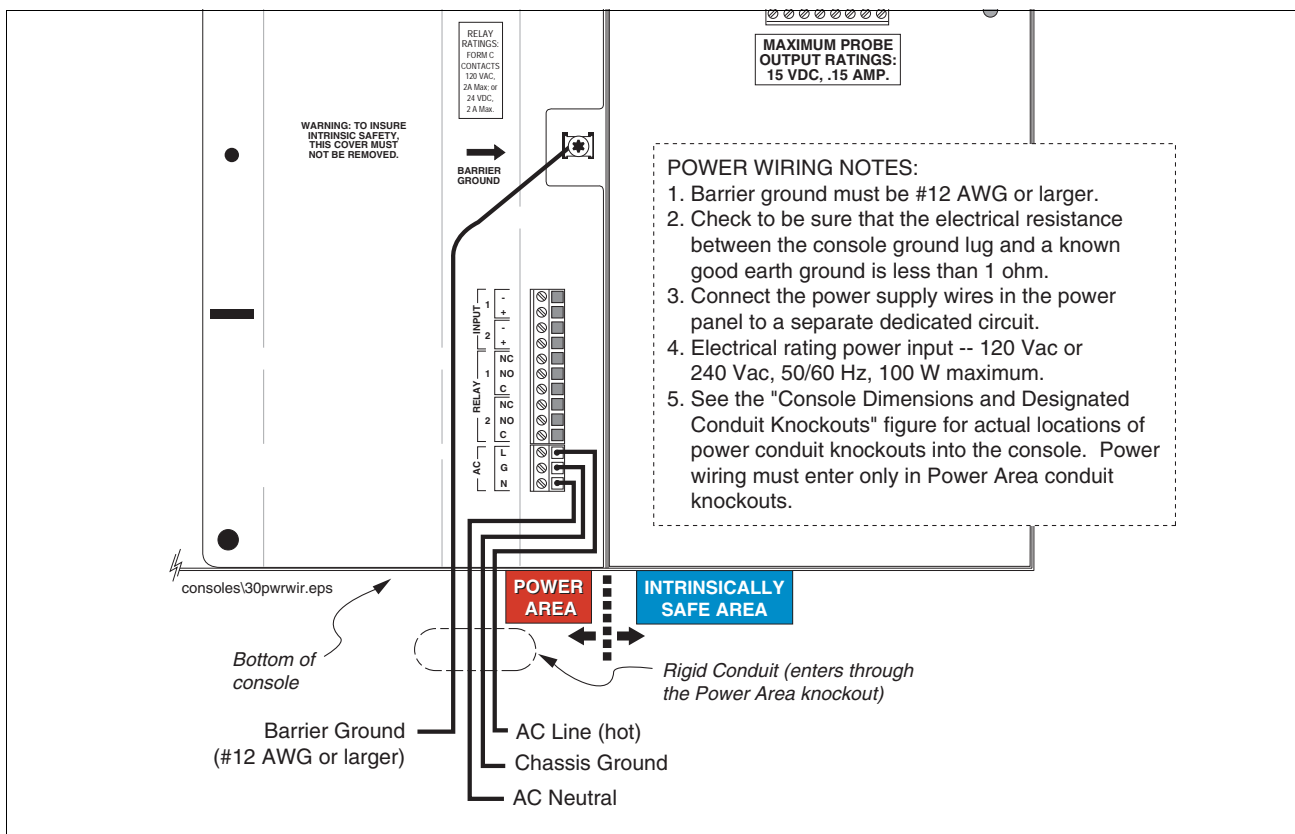
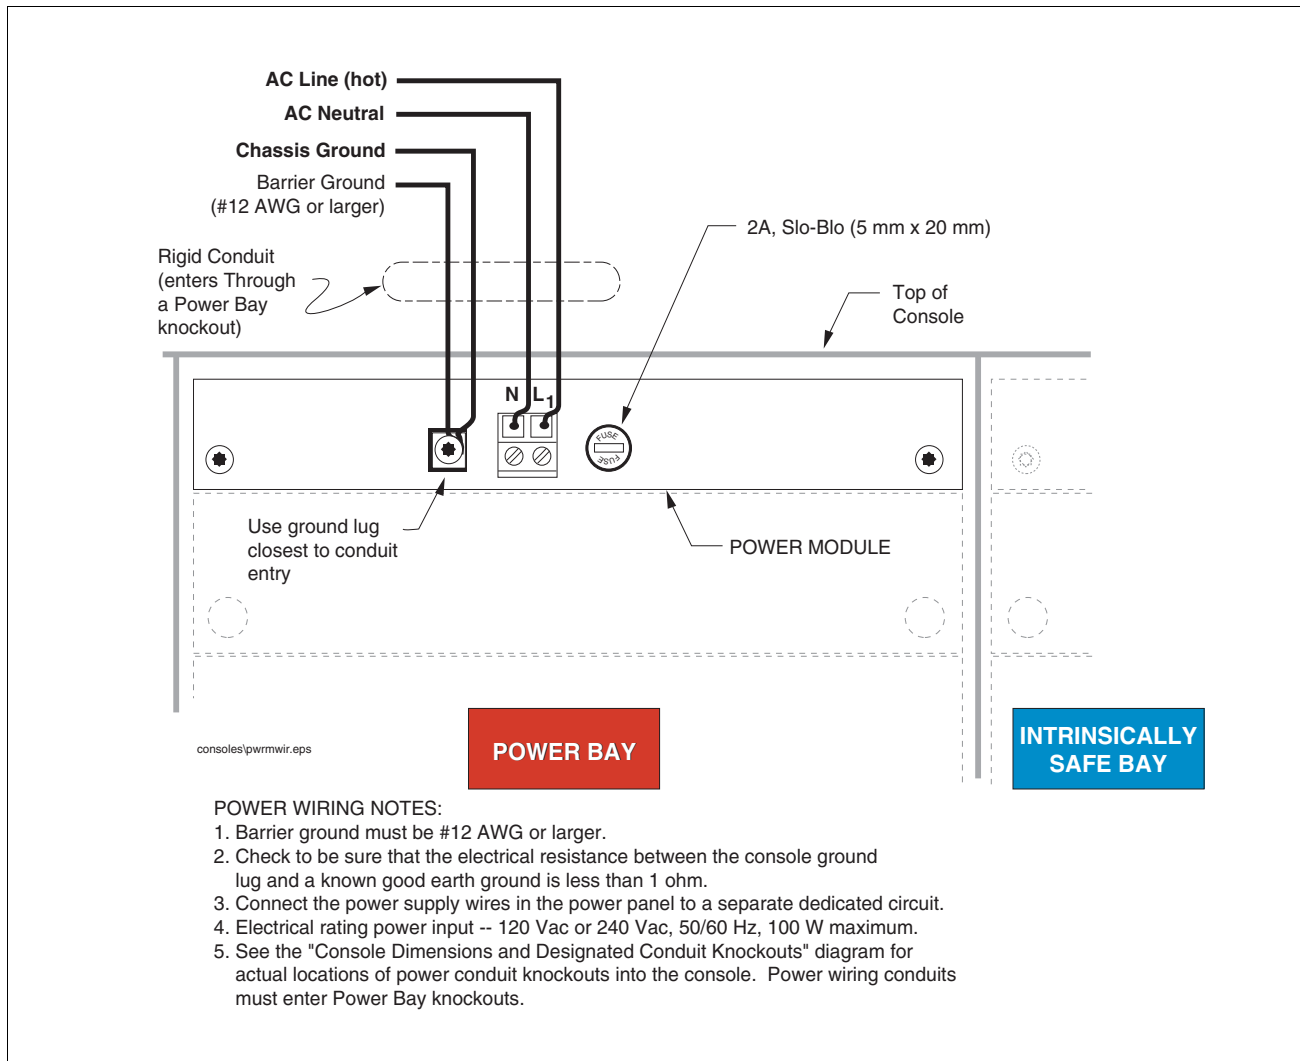

Figure 7. Wiring AC Power to the TLS-300/ProPlus/EMC Basic Console
Figure 8. Wiring AC Power to the TLS-350/ProMax/EMC Console
3. Depending on the console, connect the input AC power wires as shown in Figure 7 or Figure 8.